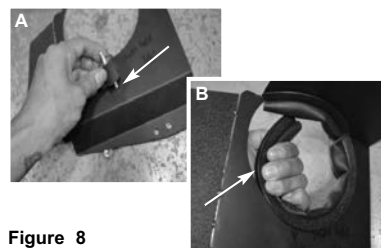

Figure 8
Align the intake bracket to the vibra mount from figure 8 (A)